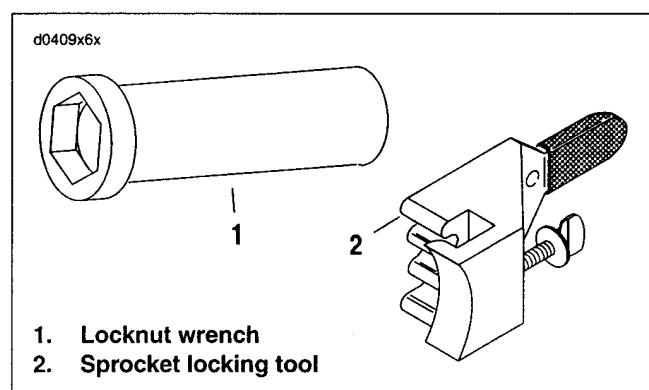

Figure 6-26. Transmission Sprocket Tools
- b. See Figure 6-26. Secure sprocket using TRANSMISSION SPROCKET TOOL (Part No. HD-41184).
3. See Figure 6-26. Lock transmission sprocket with the TRANSMISSION SPROCKET LOCKING TOOL (2) (Part No. HD-41184). Attach tool to sprocket with tool handle below pivot shaft. Snug thumbscrew to lock tool on sprocket.
4. Screw pilot of MAINSHAFT LOCKNUT WRENCH (1) (Part No. HD-94660-37B) onto threaded end of main-shaft.